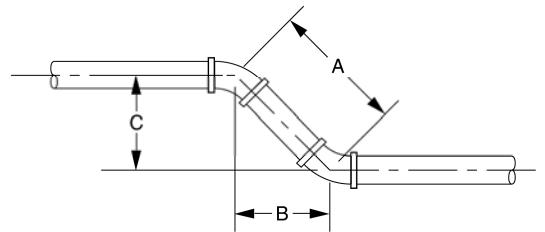

Figure 3-4. Simple offset.
9. Figure 3-4 shows a simple offset having two parallel pipes and two fittings of the same angle in the same plane. Name the three designated terms used to describe the various parts of the offset.